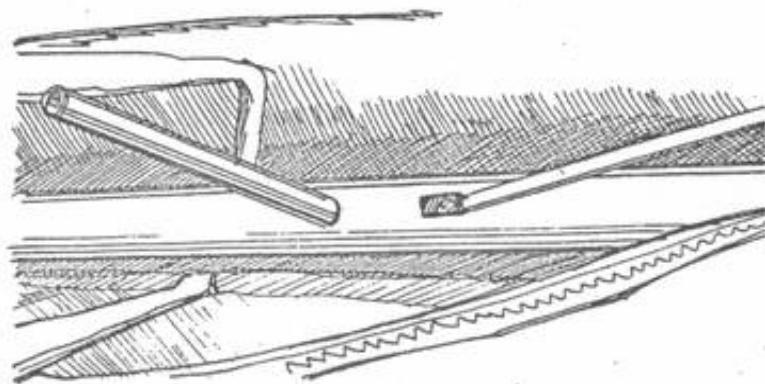
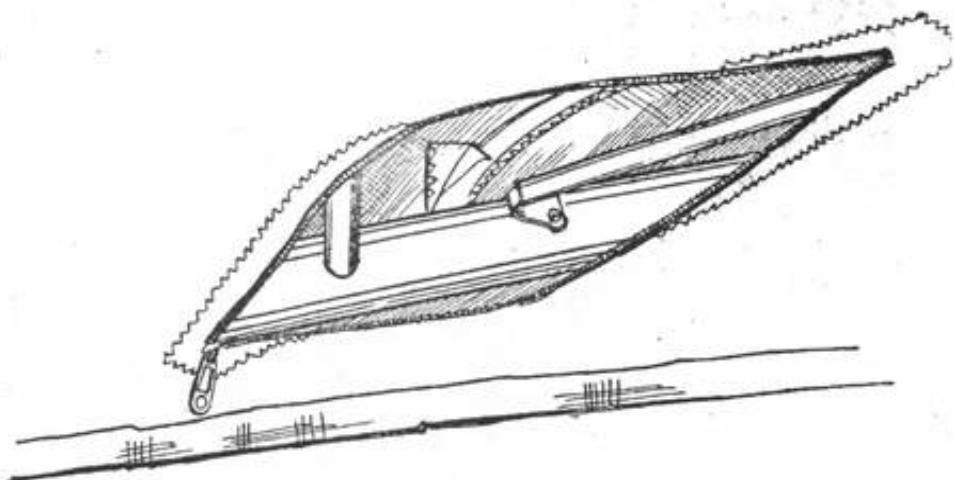

Fig.30
Fig. 30A
3.5. Look into the sail at each wing tip, and check that the tip battens are properly seated and fixed with the leech lines and rubber ropes - for Stranger (Fig.30) and for Stream (Fig.30A).